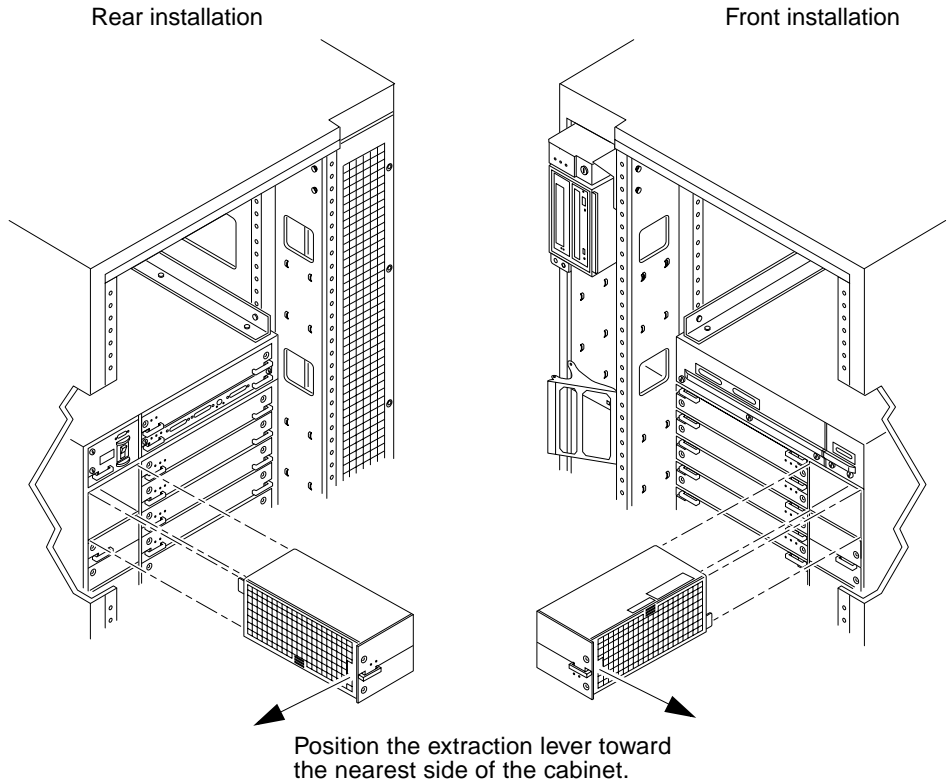

FIGURE 7-6 PCM — Front and Rear Installation
- a. **Verify that power supply is oriented so that the extraction lever is toward the outside edge of the system (FIGURE 7-6).**